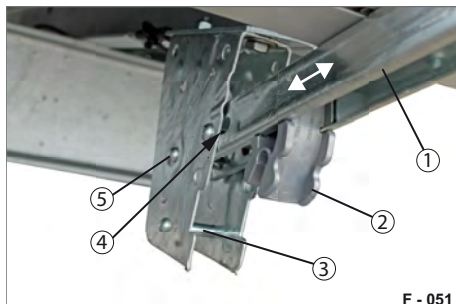
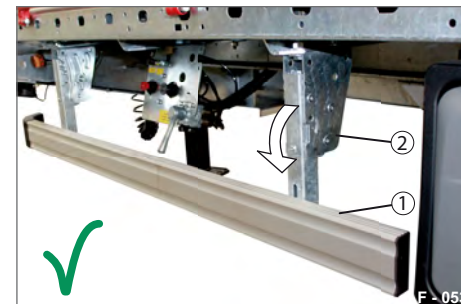

Fig. 67 Unlocking
Fig. 69 Folded down + secured
- ▶ Pull the side guard (Fig. 67/1) out of the retaining brackets (Fig. 69/2).
- ▶ Pull the side guard towards you in the elongated hole (Fig. 67/4).
- ▶ Position the side guard (Fig. 67/1) so that the open elongated hole can slide over the retaining bolt (Fig. 67/5).
- The side guard (Fig. 67/1) is secured before folding down.
- ▶ Pull the side guard towards yourself in the elongated hole so that it protrudes over the retaining brackets (Fig. 67/5).
- ▶ Press the side guard down with some force evenly into all retaining brackets (Fig. 69/2).
- The clamping parts (plastic) lock on the lower bolts (Fig. 67/3).
- The side guard (Fig. 69/1) is folded down and secured - drive position.